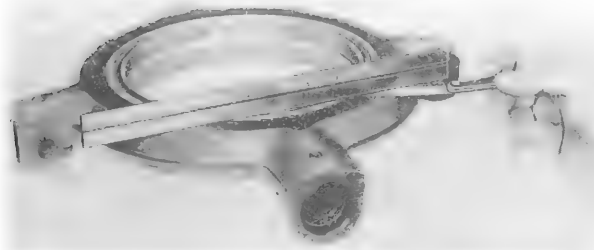

Figure 5-13. Checking Pitch Fit of Stationary Star Bearings
s. Check that outer races of bearings (5 and 8) are clamped with 0.003 to 0.005-inch fit to prevent turning in liner. Place a straightedge across upper surface of stationary star (4) and measure gap with a feeler gage. (See figure 5-13.)